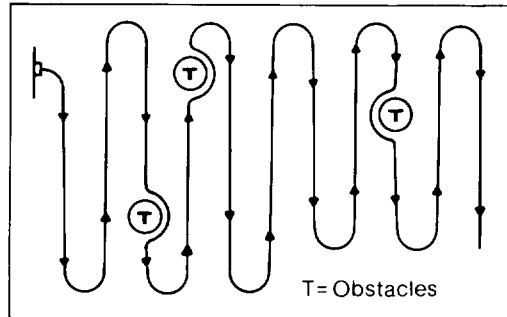

Figure 4
1. Begin mowing near the electrical outlet and work outward (Fig. 4). Mow back and forth.
IMPORTANT: By following the suggested mowing pattern (Fig. 4), the extension cord will not sustain unnecessary wear. Do not allow extension